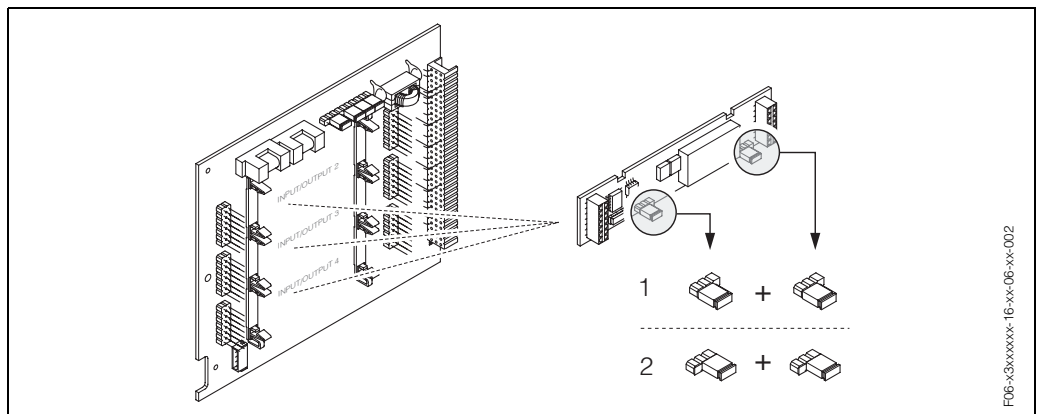
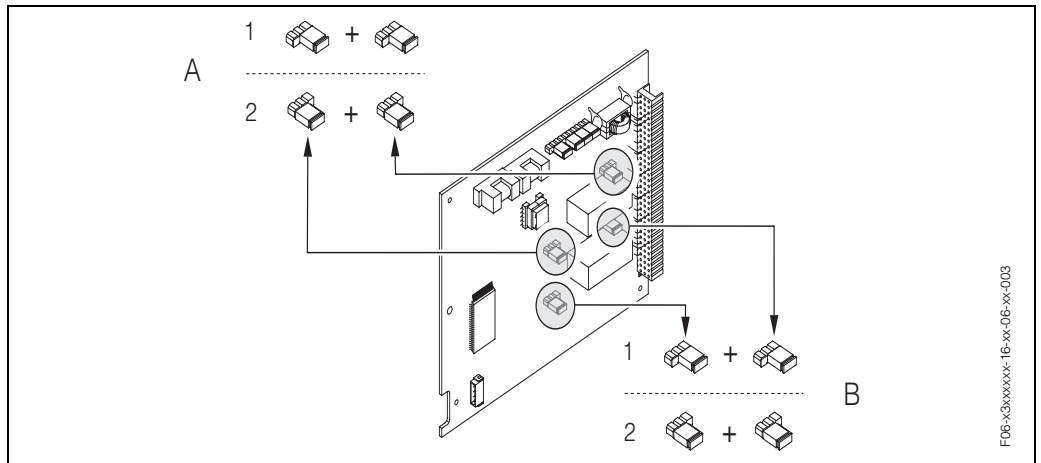

Fig. 34: Configuring relay contacts (NC / NO) for the flexible module board
Fig. 35: Configuring relay contacts (NC / NO) for the fixed module board
3. Set the jumpers in accordance with Fig. 34 or (I/O board upgradable) or Fig. 35 (I/O board not upgradable).